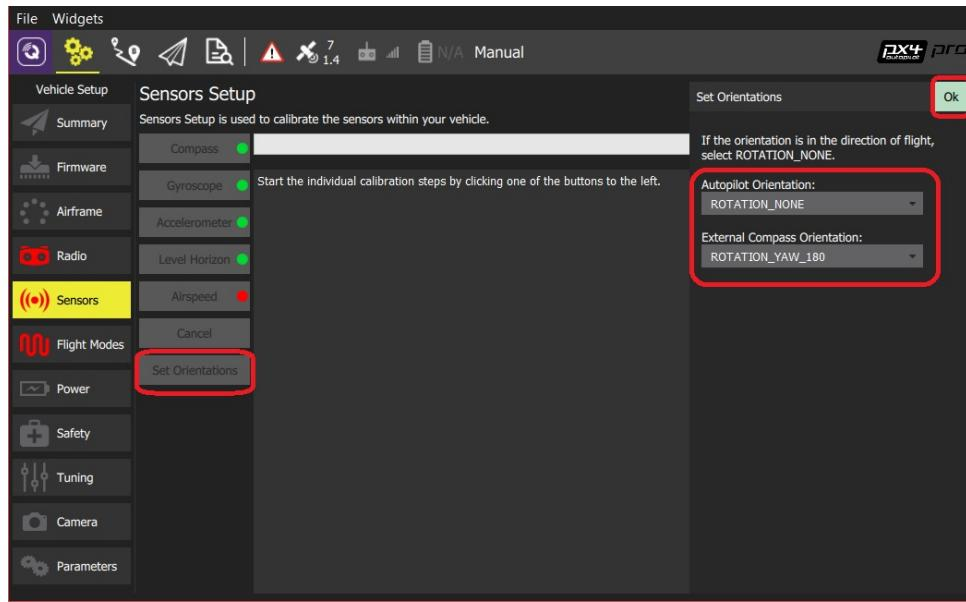

Figure 3.11: Set sensor orientation
2. Select the **Gear** icon (Vehicle Setup) in the top toolbar and then **Sensors** in the sidebar. (See figure 3.11)